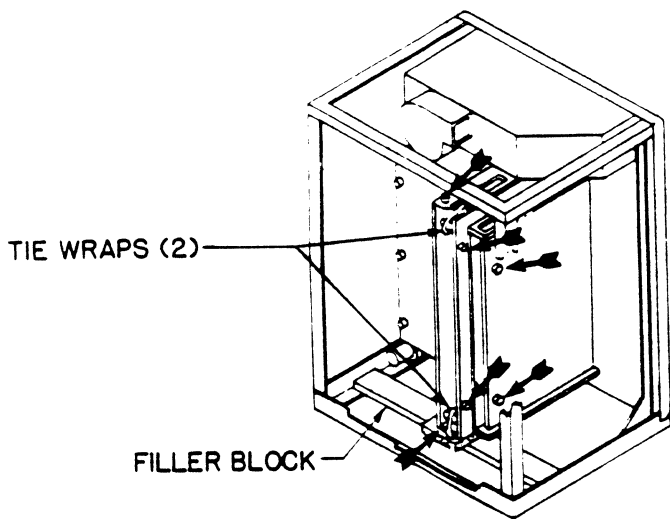

Figure 3-3. Unpacked STU
6. Remove filler block, tie-wraps (2), and filament tape (6) from knurled knobs (refer to figure 3-3).